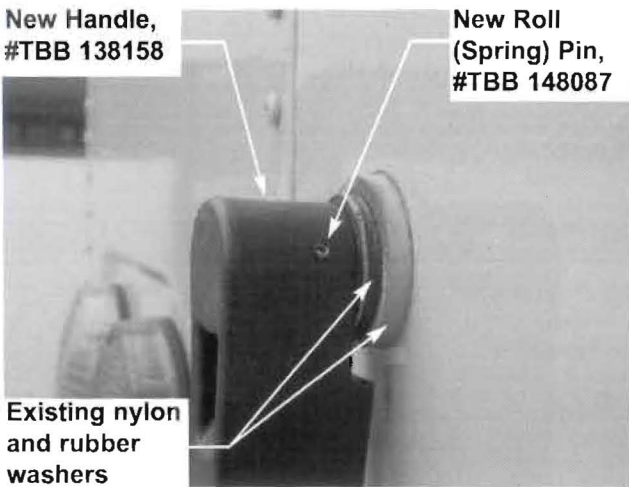

Figure 3
2. Install the new Handle, #TBB 138158, with the existing nylon washer and rubber washer as shown in **Figure 3**.